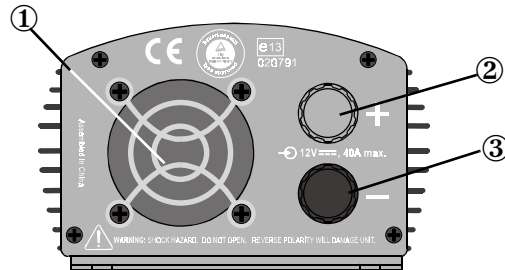
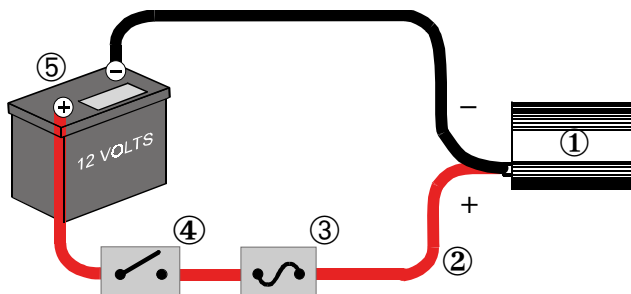

Figure 5 DC Panel on the 300 Inverter
Figure 6 Hardwiring the 300 Inverter to a 12 Volt Battery
③ **Power Light** The green PWR light is on all the time when the On/Standby switch is on.
④ **Fault Light** The red  $\Delta$ FAULT light indicates that the inverter has shut down because of low or high battery voltage, AC overload, or excessively high temperatures.
⑤ **Mounting Flanges** Mounting flanges on the AC and DC ends allow you to mount the inverter permanently. For additional information, see “Fastening the Inverter to a Mounting Surface” on page 8.
**Fan** The fan (see Figure 5) turns on when an AC load of 100 watts or larger is plugged in.
Your method will depend on the size of the AC loads you want to power. When you connect the inverter, refer to Figure 5 and Figure 6.
**Loads of any size (up to 300 watts continuous power)** For a permanent electrical connection, or when you need to power some loads that are greater than 150 watts and some that are less than 150 watts, you can hardwire the inverter to the battery. This eliminates the need to switch between the battery clip wire assembly and the cigarette plug wire assembly. A hardwired installation is illustrated in Figure 6.
3. Install a 40 amp automotive fuse and a switch rated at 40 amps in the positive (red) wire, close to the end that will attach to the battery. See Figure 6. The switch lets you disconnect the DC power if you need to replace the in-line fuse. Solder and insulate the connections as detailed in Step 2 above.
- If you need to replace the in-line fuse (see Figure 6), turn off the in-line switch to disconnect the DC power.